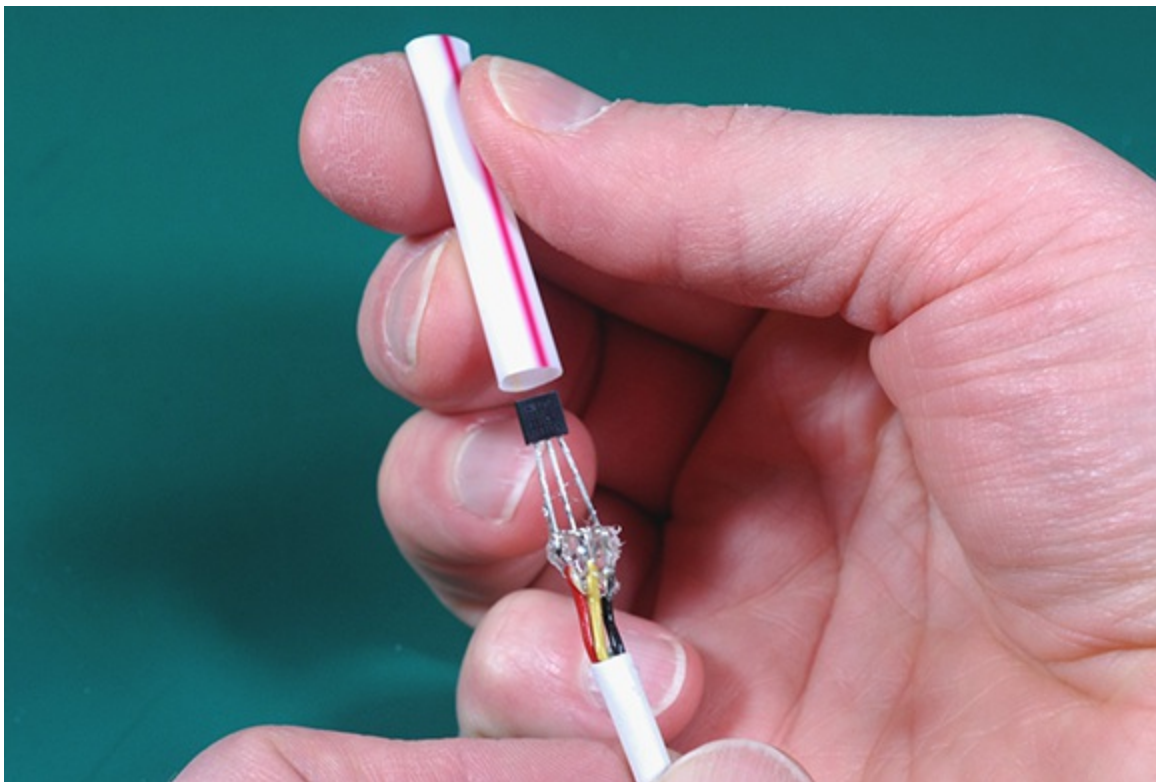

Figure 12-8: Testing the fit of your sensors.
- 9. After the glue cools, test that each sensor fits snugly into its straw, as shown in Figure 12-8. But make sure the leads don't touch each other or you'll have a short circuit.**